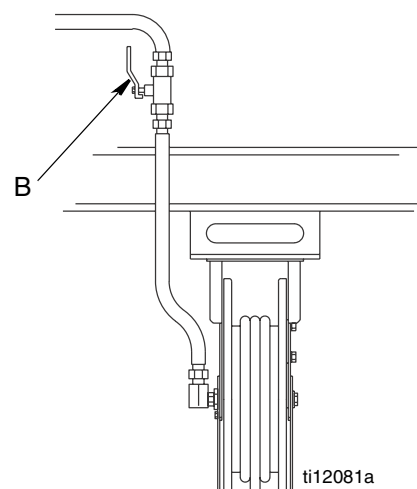

FIG. 3
1. Close the fluid shutoff valve (B, FIG. 3) at each dispense position.